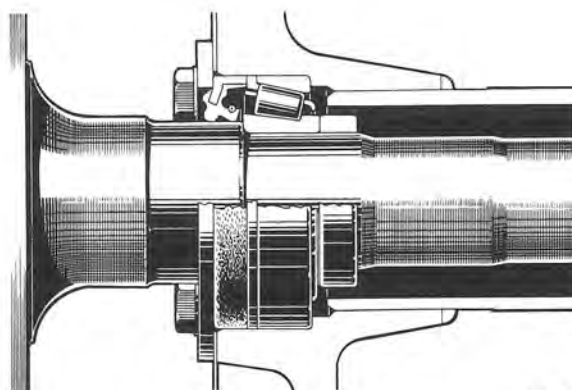

Fig. 4-140. Drive shaft journalling
The drive pinion is carried in taper roller bearings. The axial location of the drive pinion relative to the crown wheel is adjusted by means of shims under the outer race of the rear pinion bearings. Application of the pinion bearings is by means of shims under the front pinion bearing inner ring. The outer end of each drive shaft is journalled in a taper roller bearing. Bearing clearance is not adjustable but is determined by the construction of the bearing, see Fig. 4-140. There are oil seals on both sides of the drive shaft bearings.
5. Fill the space between the seal lips on the new oil with grease. Then place it on the drive shaft. Fit the bearing and lock ring. Turn the bearing correctly, see Fig. 4-140.